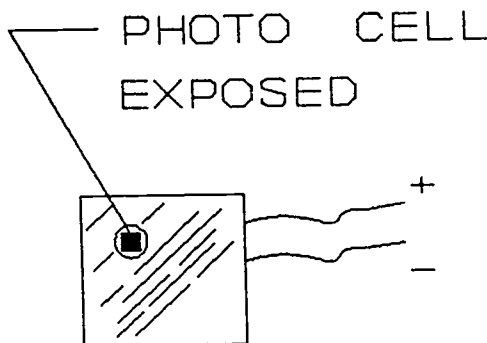

Figure C-2-3
1. Take a dark-colored piece of construction paper and put a hole in it that would only expose the photo cell when placed over the solar cell. (Use tape to attach to solar cell.) See Figure C-2-3, "Masked Photo Cell."